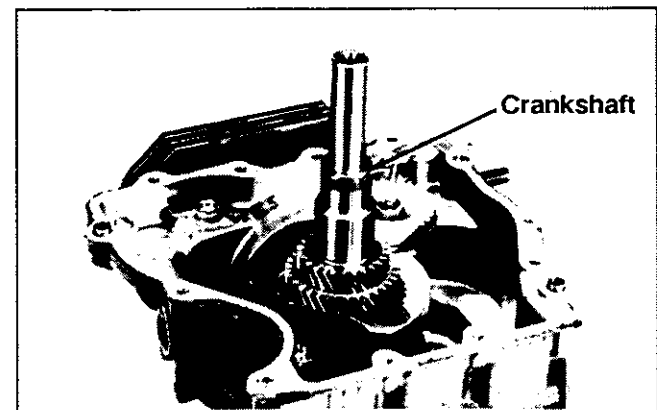

Figure 9-44. Removing Crankshaft.
- Remove the crankshaft from the crankcase. See Figure 9-44.